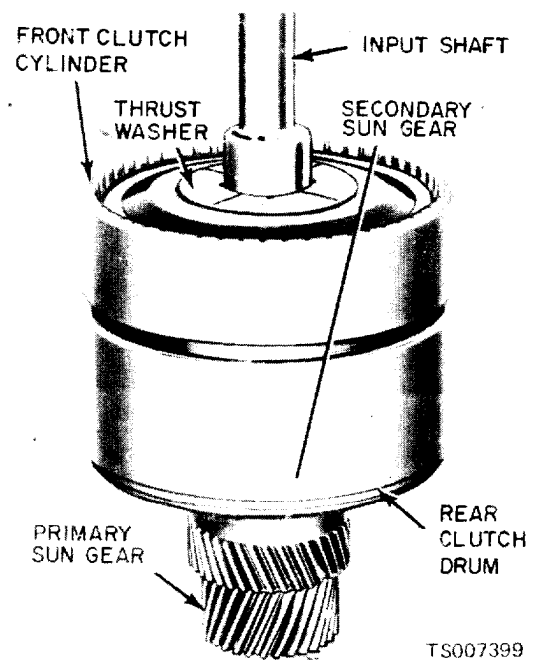

Figure 7-11. Input Shaft and Clutch Removal.
(16) Set the clutch assemblies up on the sun gear end as shown in figure 7-11.